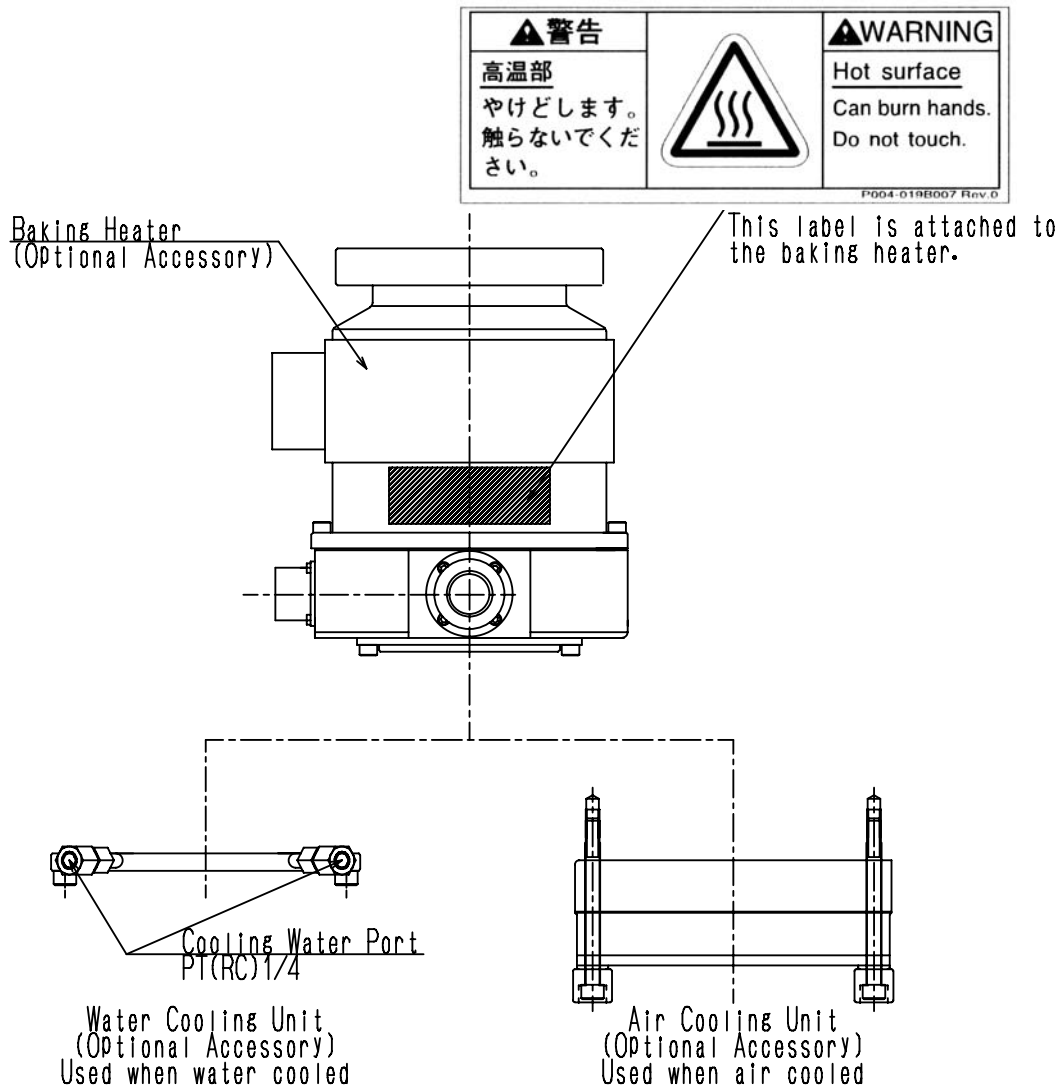

Figure 5.1 Attaching Positions of the Cooling Unit and Baking Heater
(See Figure 5.1, "Attaching Positions of the Cooling Unit and Baking Heater")
- 1) Connect the cooling water pipe to the cooling water port in accordance with Figure 5.1.
- 2) The female screw PT^{*1} (RC) 1/4 is used in the cooling water port.